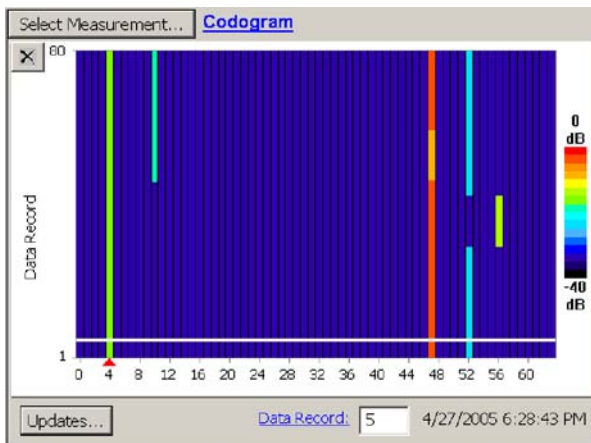

Figure 3-59: 1xEV-DO codogram display
4. Tap **Codogram**. See Figure 3-59.